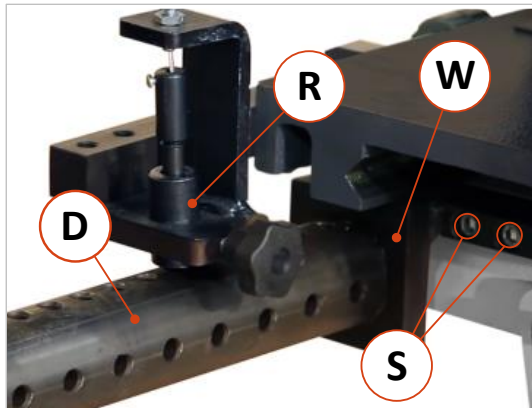

Figure 23: Fitting the dowel indexing device
- Fit the mounting bracket (W) of the indexing barrel (D) into the threaded holes on the drill table using the Allen screws (S) supplied (see ⇒ Figure 23) → Do not fully tighten the Allen screws (S) yet, as you will have to adjust the position to suit the locking mechanism.